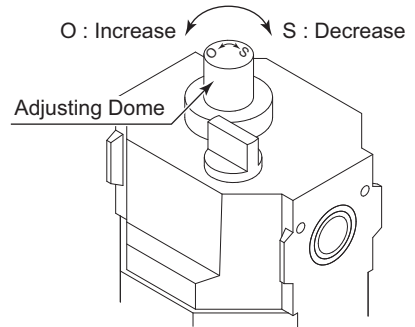

Fig. 5
(3) Adjustment of Oil Drip Rate (Fig. 5)
① Set the air pressure to the air motors recommended maximum air pressure.
② Adjust the Oil Drip Rate to the recommended volume which is Table 3.